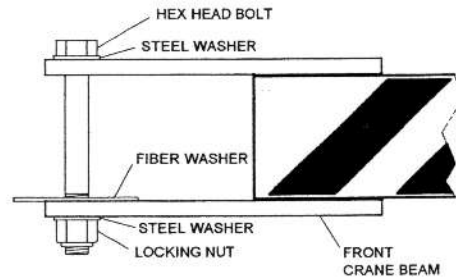

Figure 9
3. See figure 9 for center pivot hardware assembly.